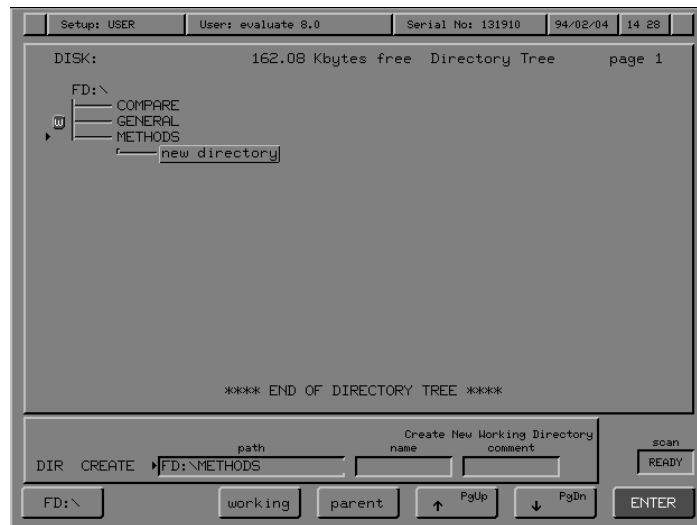

Figure 6-12 Creating a New Directory
*The create directory command line and soft keys are displayed (Figure 6-12), with the selected directory in the **path** field. In the display area, a sub-directory called **new directory** appears below the selected directory.*